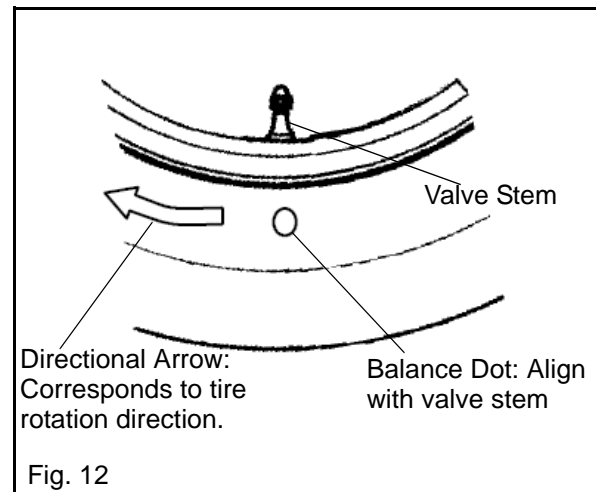

Fig. 12
**NOTE:** Confirm tire is positioned correctly by observing directional arrows. (Fig. 12)